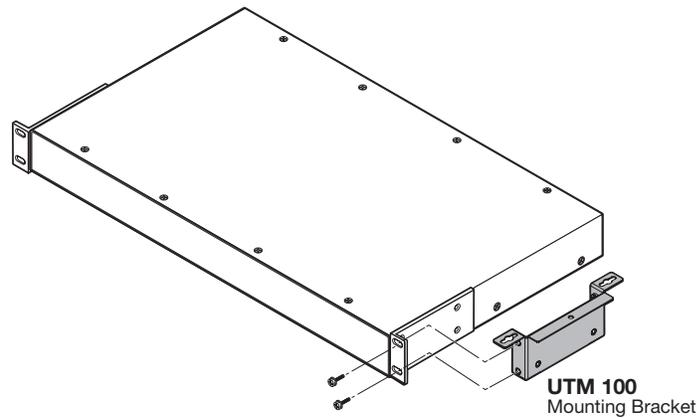

Figure 93. Under-Desk Mounting (UTM 100 Shown)
3. On the Download Center screen, click the **I** link (see figure 93, **1**).